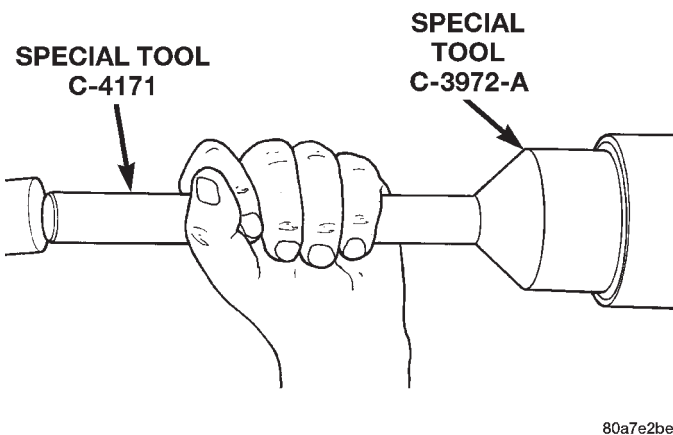
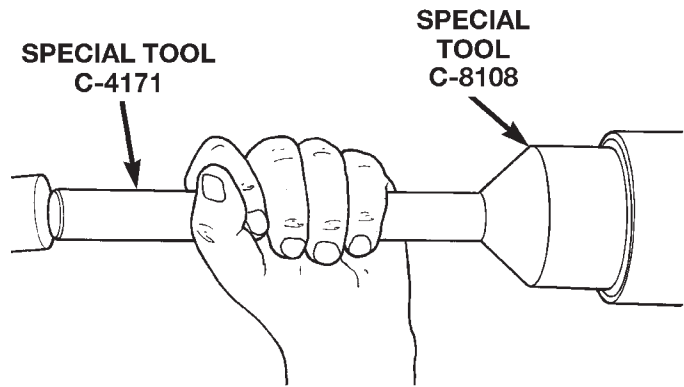

Fig. 53 Pinion Seal Installation—216 FBI Axle
Fig. 54 Pinion Seal Installation—248 FBI Axle
(4) Install pinion front bearing, oil slinger. Apply a light coating of gear lubricant on the lip of pinion seal.
(5) Install pinion seal with Installer C-3972-A for 216 FBI axles (Fig. 53), or 8108 for 248 FBI axles (Fig. 54), and Handle C-4171.